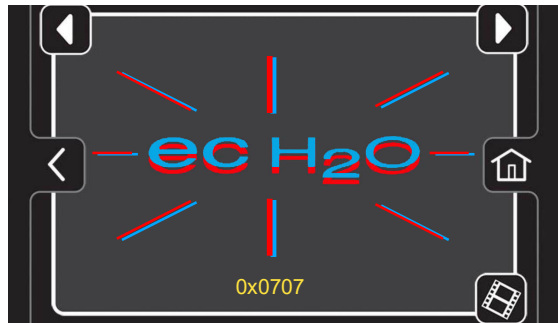

FIG. 60
**Flashing Blue and Red ec-H2O Screen** (Figure 60) - The water conditioning cartridge has expired. See ec-H2O WATER CONDITIONING CARTRIDGE REPLACEMENT.